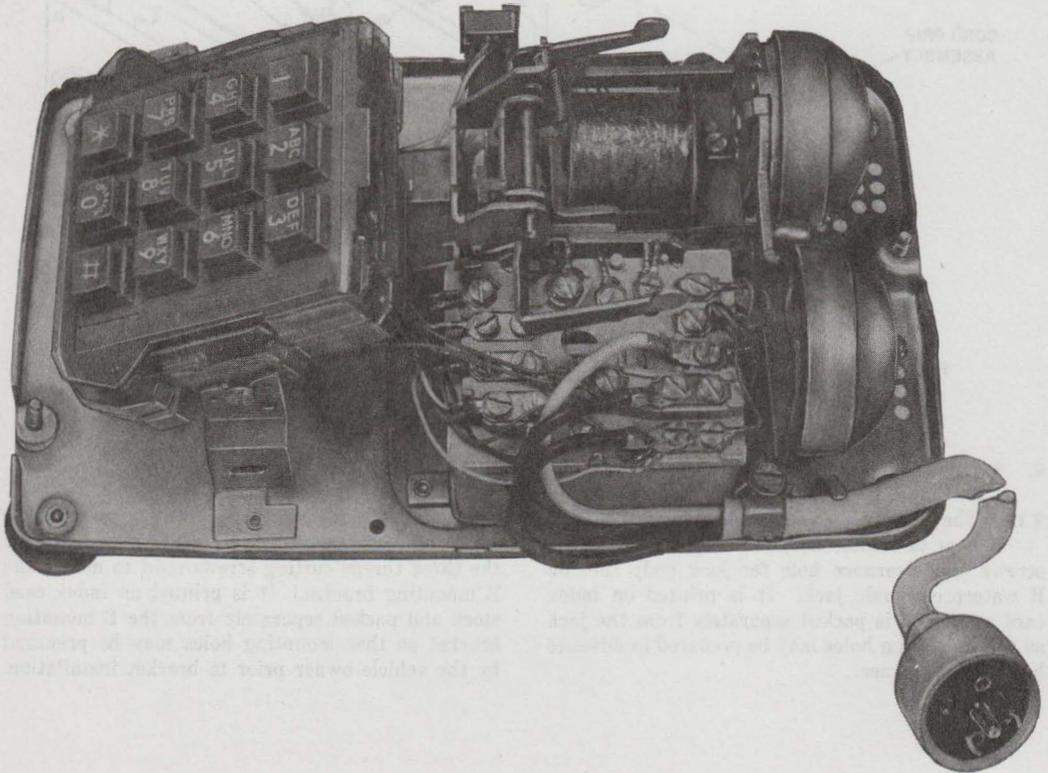

Fig. 65—C Weatherproof Cord
3.17 The C weatherproof cord is similar in construction to the B weatherproof cord except, that instead of a female plug, one end is equipped with an "S" hook assembly and spade-tipped leads for connection to a telephone set (Fig. 65).